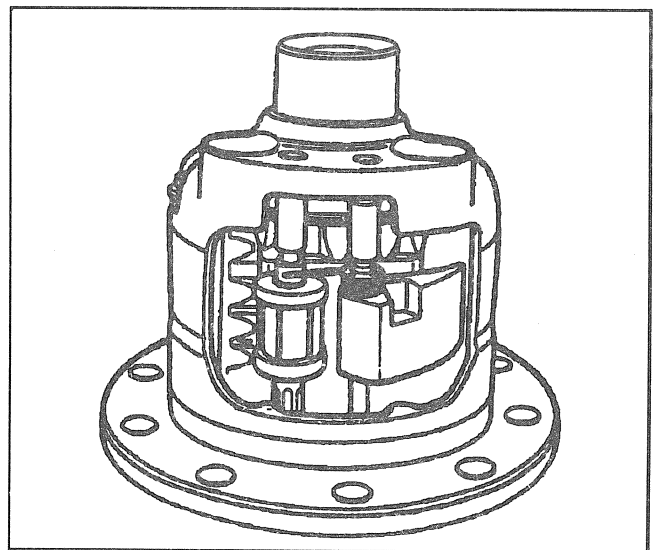

Figure 8—Governor and Latching Bracket
7. Pinion shaft (18).
8. A new lockscrew (3). Install finger tight.
9. Governor assembly (11) and latching bracket (5).
- The straight end of the latching bracket spring must be over and outside the governor assembly shaft (Figure 8).
10. Stop pin (2) (9 1/2 inch only).
11. Governor bushing (4).